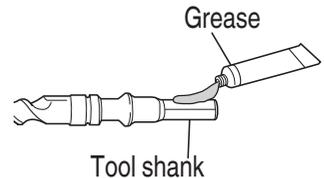

Fig. 1
- (1) Clean, then smear the tool shank with the grease provided in the green tube (**Fig. 1**).